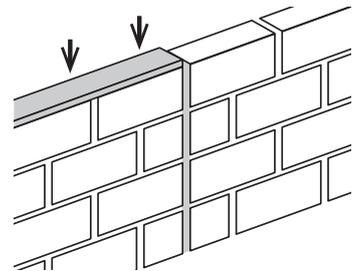

Fig. 3
- Change of loading (See figure 3)